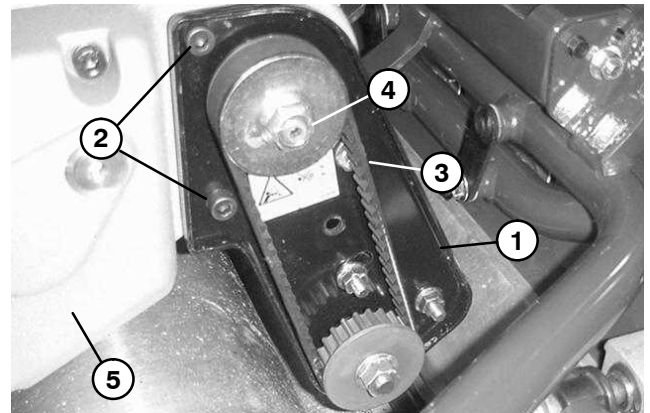

Figure 41
2. Remove reel drive assembly from gearbox (Fig. 41):
15. Install reel drive assembly to the gearbox (Fig. 41):